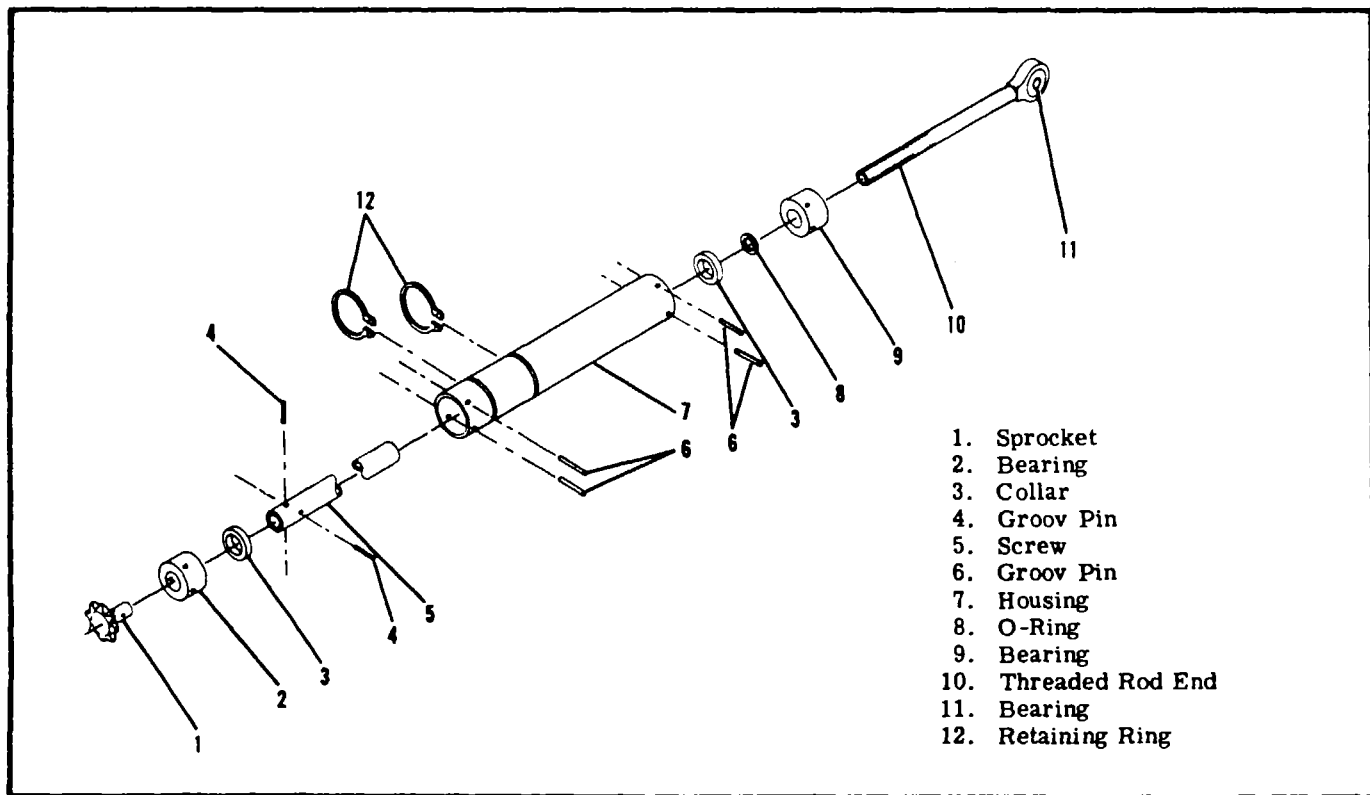

Figure 9-3. Stabilizer Trim Tab Actuator Assembly
9-7A. DISASSEMBLY. (Refer to figure 9-3.)
- b. Disassembly actuator assembly as illustrated in figure 9-3 as follows:
9-7B. CLEANING, INSPECTION AND REPAIR. (Refer to figure 9-3.)
9-7C. REASSEMBLY. (Refer to figure 9-3.)